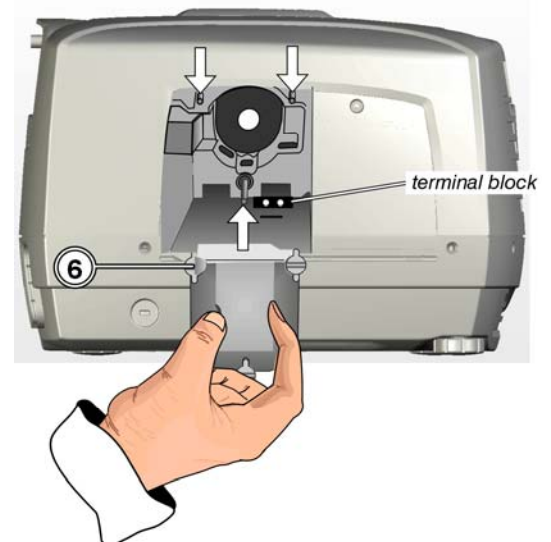

Figure 4.5.
- On the new lamp module, turn the three lock screws to the “unlock” position before inserting it into the lamp compartment. Align the lamp with the three pins located at the back of the compartment. Insert the lamp all the way in until it is fully seated. (Figure 4.5)